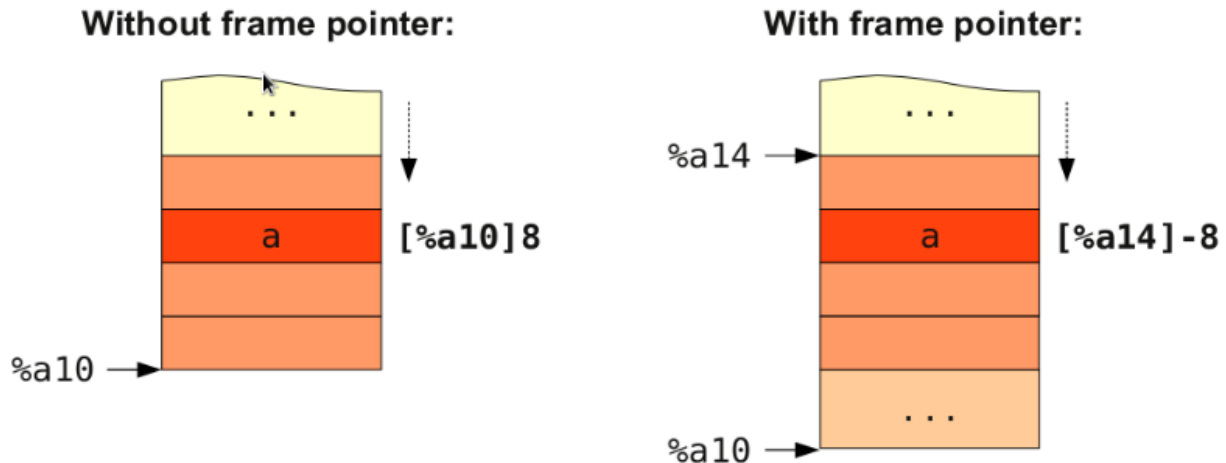

Figure 3.9: Addressing of a variable `a` located on the stack. If the stack frame has a variable size, slot must be addressed relative to the frame pointer
- `eliminateFrameIndex()` is called for each instruction that references a word of data in a stack slot. All previous passes of the code generator have been addressing stack slots through an abstract frame index and an immediate offset. The purpose of this function is to translate such a reference into a register–offset pair. Depending on whether the machine function that contains the instruction has a fixed or a variable stack frame, either the stack pointer `%a10` or the frame pointer `%a14` is used as the base register. The offset is computed accordingly. Figure 3.9 demonstrates for both cases how a stack slot is addressed.